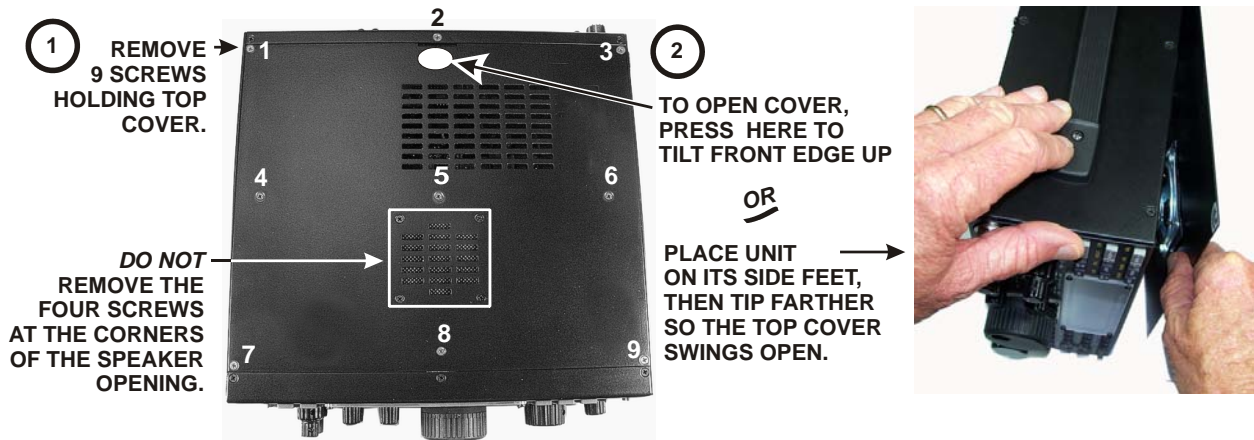

Figure 1. Removing K3 Top Cover.
- Remove the nine screws to free the top cover as shown in Figure 1. After the cover is open, lift it gently to reach the speaker wire connector. Unplug the speaker then set the top cover aside in a safe place.